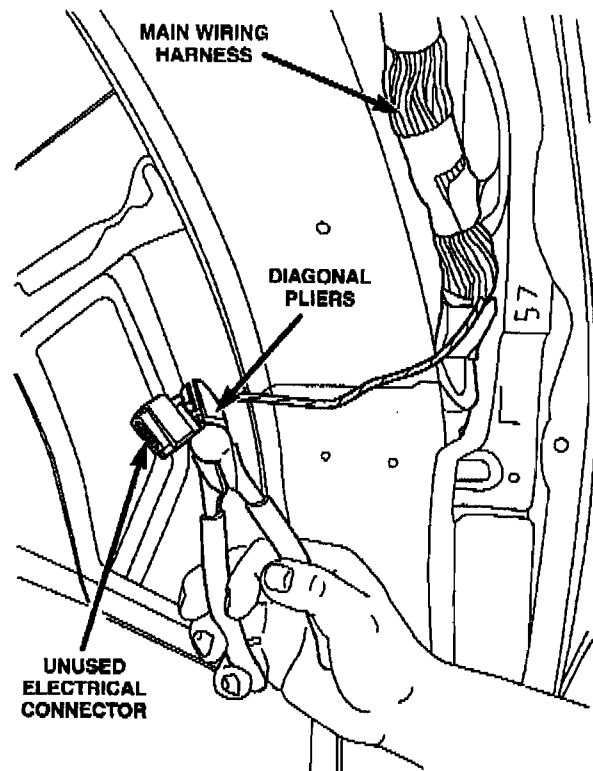

Figure 2
7. Using diagonal pliers, cut off and discard the 6-cavity unused tire pressure monitor electrical connector (Figure 2).
19. Place a piece of heat shrink tube over each individual wire end and heat the shrink tube until glue comes out of both ends of the shrink tube (Figure 2).